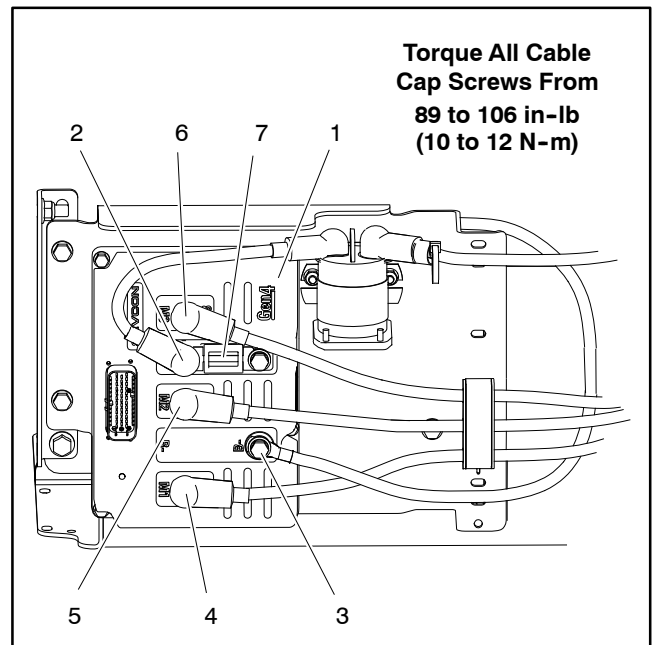

Figure 53
- A. Remove cap screw, lock washer, flat washer and cable connector from controller terminals B+, B-, M1, M2 and M3 (Fig. 53).
6. Remove four (4) washer head screws that secure controller to controller bracket. Carefully remove controller from vehicle.
7. If necessary, remove washer head screw (item 3) that secures isolator retainer, isolator and controller cables to controller bracket. Separate isolator and controller cables from bracket.
2. Position controller to controller bracket and secure with four (4) washer head screws.
B. Secure controller cables to controller terminals B+, B-, M1, M2 and M3 with cap screw, lock washer and flat washer (Fig. 53). Torque cap screws from **89 to 106 in-lb (10 to 12 N-m)**.